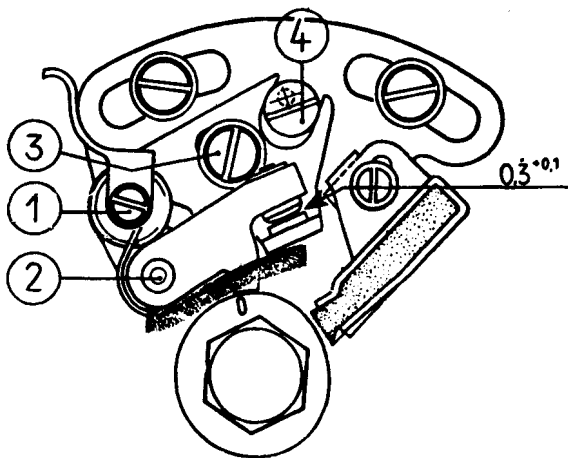

Fig. 96. Contact breaker
After loosening the setscrew (3), adjustments are made by means of the eccentric screw (4), Fig. 96.